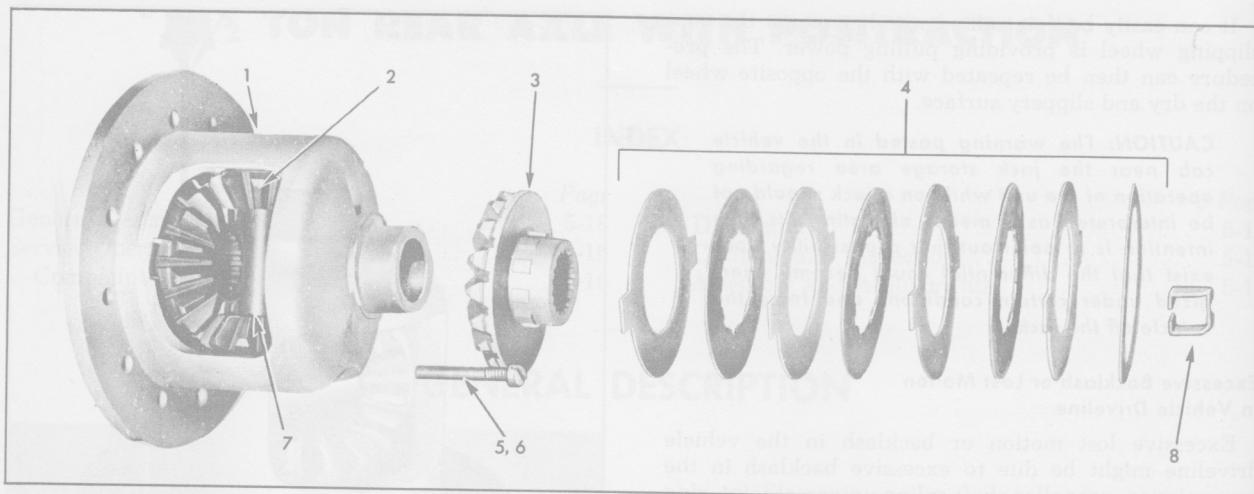

Fig. 37—Details and Relative Location of Parts
1. Apply coating of lubricant to all clutch discs and stack four eared discs and three splined discs alternately on each side gear (see Figure 37). Place same shims which were removed, or equivalent amount, on the outside eared disc of each clutch stack.